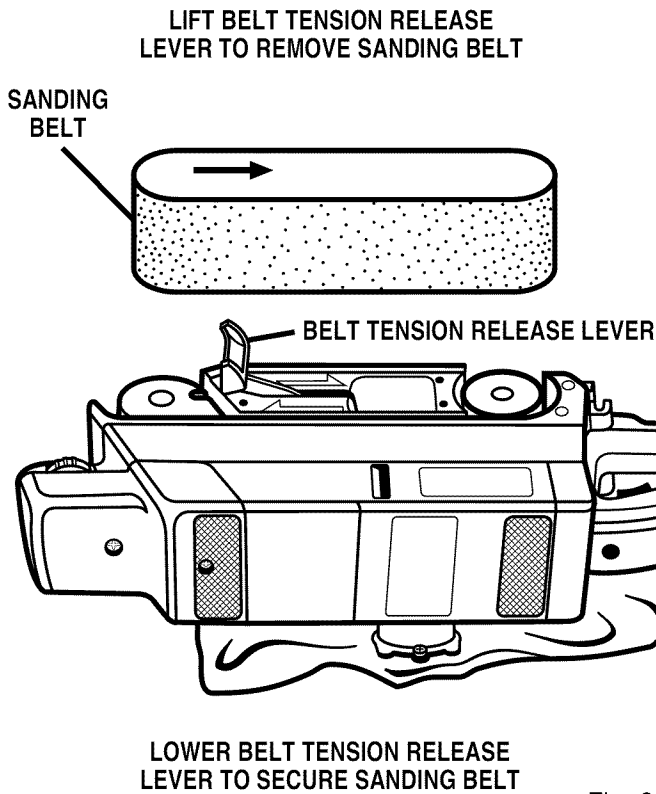

Fig. 3
- Position sander as shown in figure 3.
- Release belt tension by lifting tension release lever as shown in figure 3.